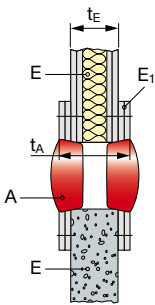

Figure 3: Blank wall seal, no services
Flexible wall, figure 3, top section (E)
Rigid wall, figure 3, bottom section (E)
Blank wall seal, no services, figure 3:
Abbreviations used in figures 3, and 4